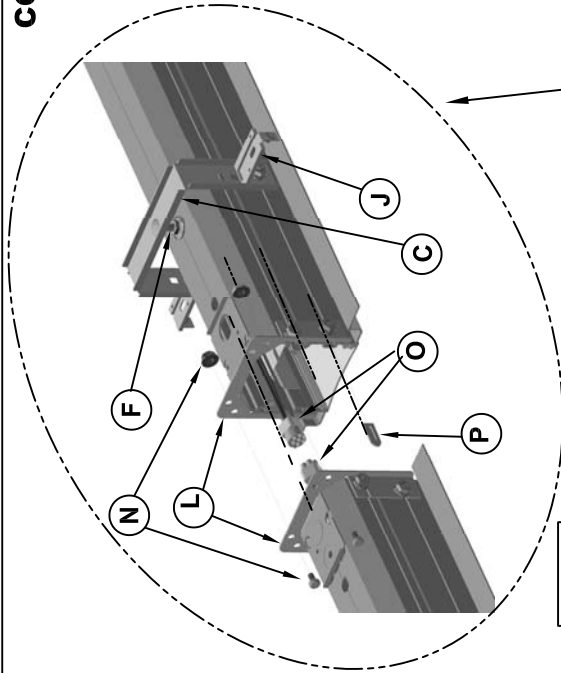

FIG. 8
MOUNT NEXT FIXTURE IN A SIMILAR FASHION AS FIRST FIXTURE SUCH THAT THE ALIGNMENT TABS (P) FIT INTO THE FIRST FIXTURE. MAKE CONNECTION OF THE WIRE HARNESS (O) AND PUSH EXCESS WIRE BACK INTO FIXTURE. SLIDE FIXTURES TOGETHER, MAKING SURE THAT WIRE IS NOT PINCHED BETWEEN JOINT, AND BOLT FIXTURES TOGETHER WITH NUTS AND BOLTS (N) SUPPLIED. (REF. FIG. 8)